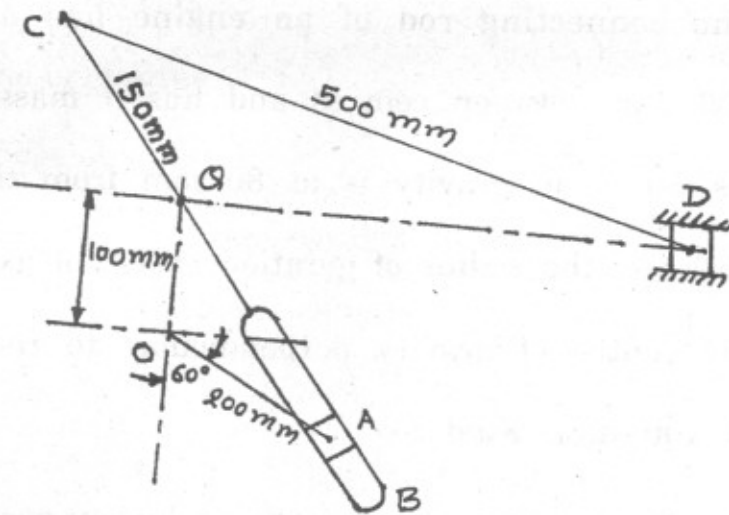

Fig. 5
- (b) Fig. 5 shows a quick return motion mechanism in which the driving crank OA rotates at 120 r.p.m. in a clockwise direction. For the position shown, determine the magnitude and direction of :